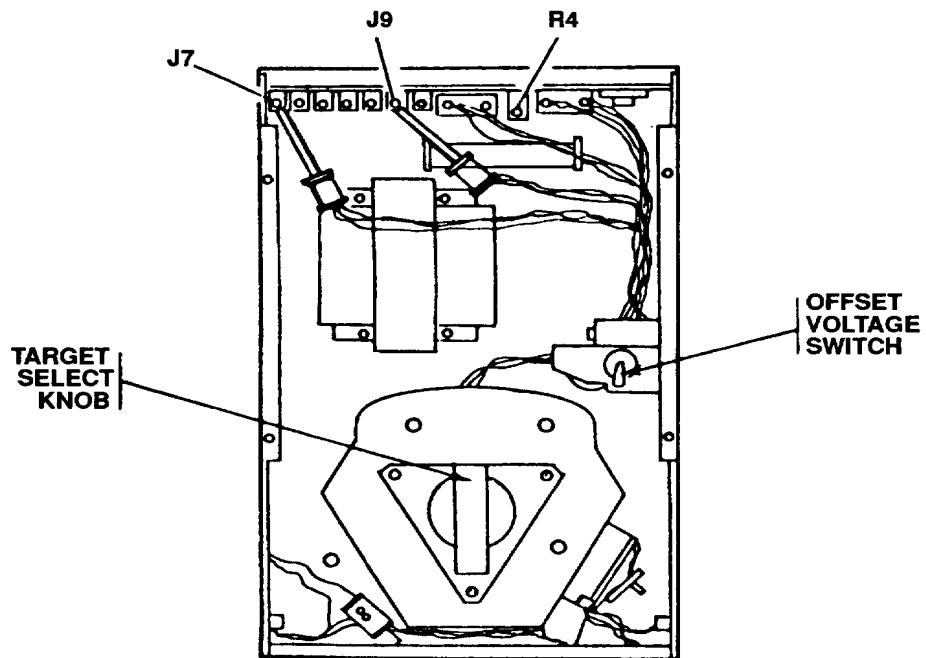

Figure 1. Temperature controller locations.
- b. Set target select knob (fig. 1) to BAR position
- o.** Place offset voltage pin adapters on pin J7 (black) and J9 (red) (fig. 1). Connect leads to proper pin adapter (black to black, red to red).
- s. Set offset voltage (toggle) switch to **ALIGN** (fig. 1).
If this is the initial calibration, adjust temperature controller potentiometer R4 (fig. 1) for an indication of 4.30 ± 0.05 V dc on digital voltmeter.
- u. If necessary, adjust temperature controller potentiometer R4 (fig. 1) for digital voltmeter indication equal to previous offset voltage listed on TI offset voltage label (located on temperature controller) ± 0.05 V dc. Record indication as V_o .
(2) Set offset voltage switch to **ALIGN**.
(3) Adjust offset voltage potentiometer R4 (fig. 1) for an indication change of 0.1 V dc on digital voltmeter.